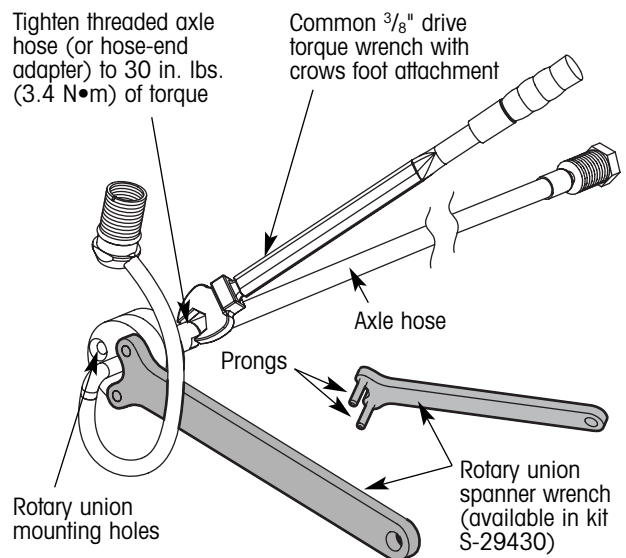

Figure 13a. Rotary union spanner wrench use
4. Using the rotary union spanner wrench (figure 13a), screw the threaded rotary union into the threaded axle hose (or hose-end adapter) and tighten to 30 in. lbs. (3.4 N•m) of torque.